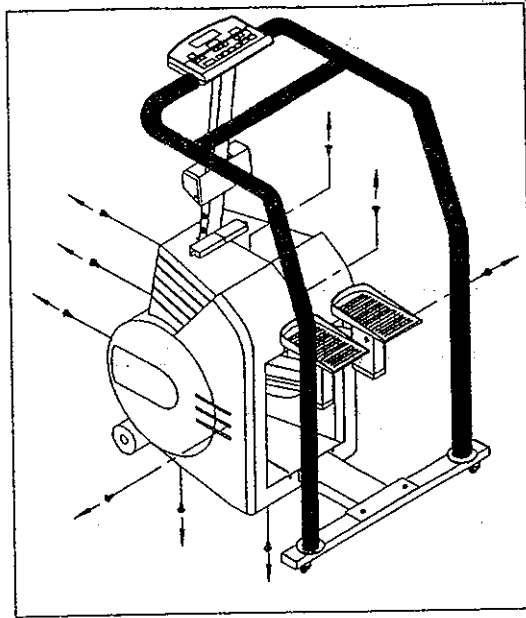

Fig. 6
5. Remove the nine screws securing the main shroud (see Fig. 6).